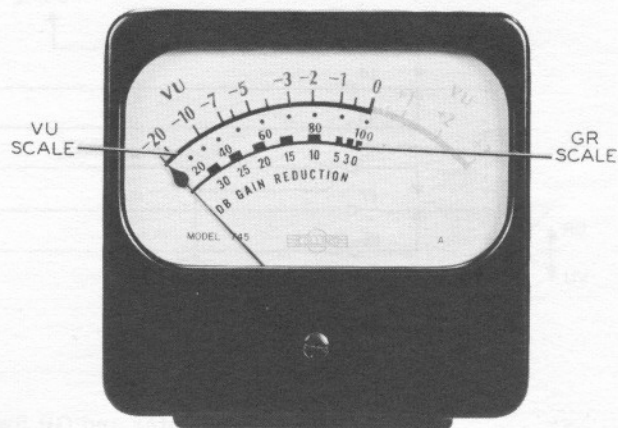

Figure 7. VU Meter with GR Scale Decal Applied
- Apply the decal to the VU meter scale with the plain black line of the decal directly over the black line on the meter scale and with the zero of the decal aligned with the zero of the meter scale. See figure 7.